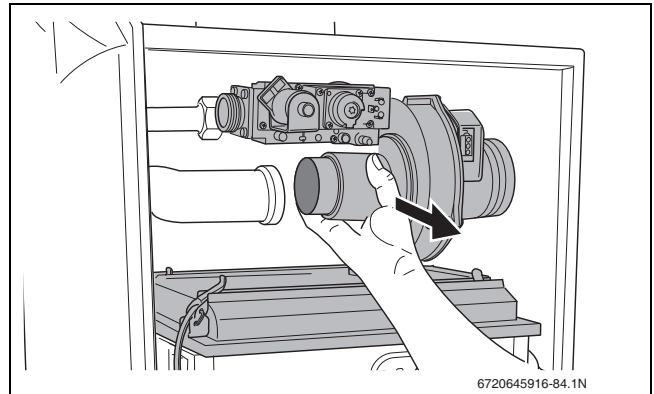

Fig. 86 Removing the burner cover with the gas/air unit
- Remove the burner cover with the gas/air unit (→ fig. 86).